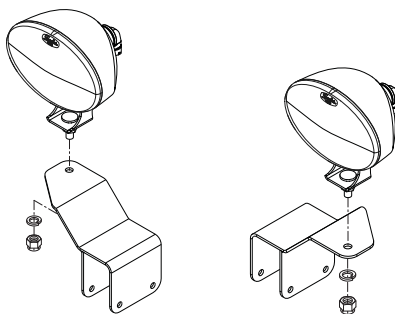

Figure 1. Assemble Lights to Mounting Brackets
2. Using the hardware provided, assemble the lights to the mounting brackets as shown in Figure 1. Do not tighten the hardware at this time.